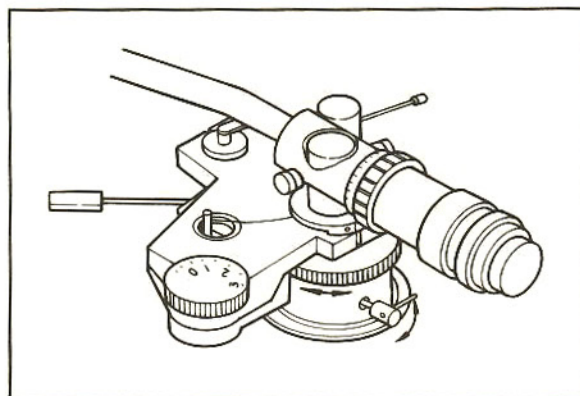

Fig. 3-2. Tonearm height adjustment
1. Release the locking lever at the tonearm base by turning it counterclockwise as shown in Fig. 3-2.
2. Tonearm height can be adjusted by turning the tonearm height adjustment ring on the tonearm base as shown in Fig. 3-2.